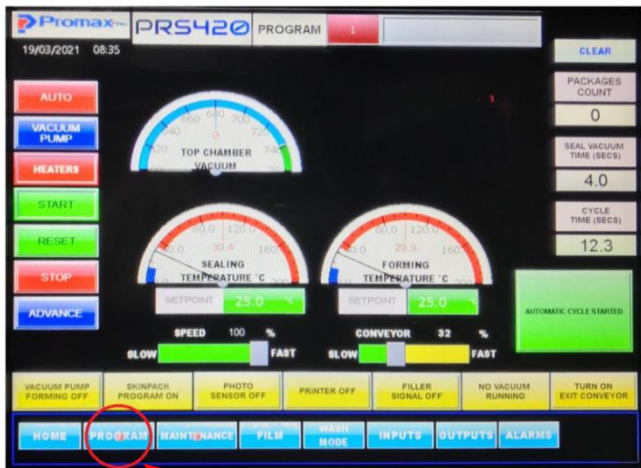
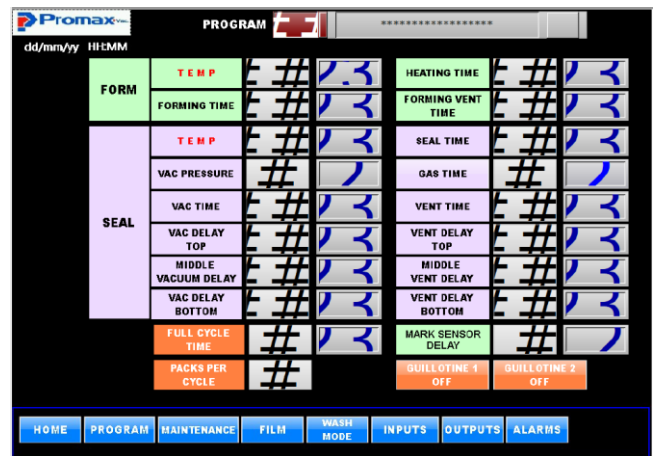

Fig.OP-5.11
Fig.OP-5.12
- To configure temperature control press PROGRAM on HOME screen (Fig. OP-5.11) and select temperature settings for either FORMING or SEALING (Fig. OP-5.12).